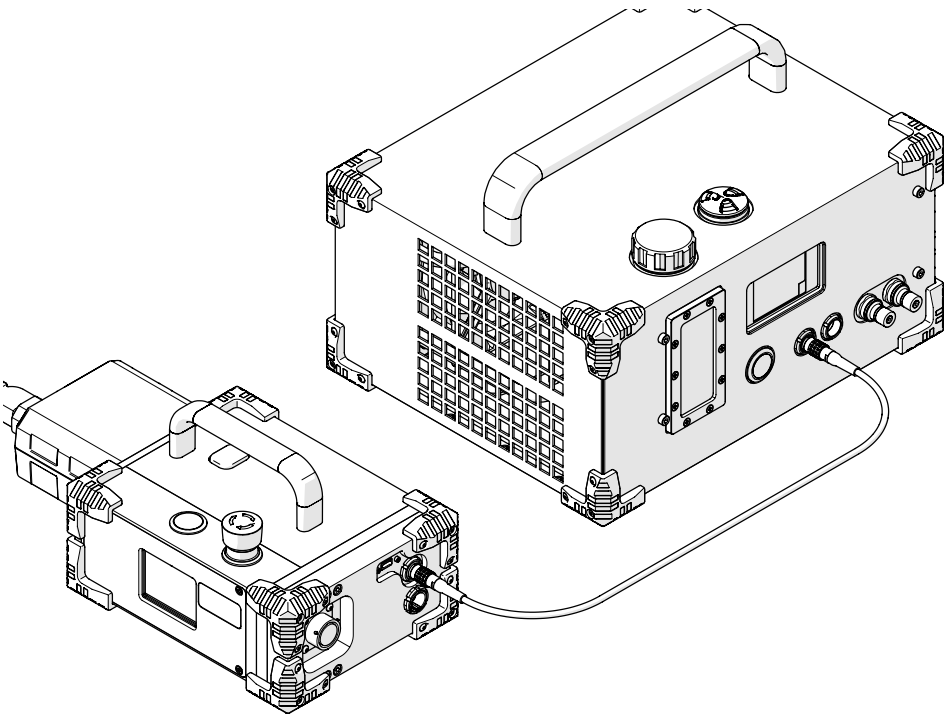

Fig. 12 - Plug into power source
2. Connect the auxiliary cable to an approved power controller (Fig. 12).